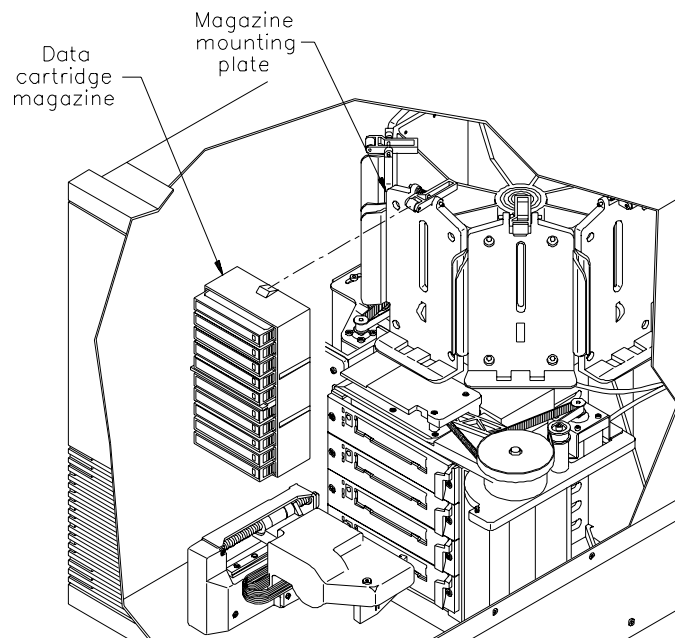

Figure 3-3 Replacing a cartridge magazine
5. Grasp the cartridge magazine on either side, pull the upper end out first, and remove it from the mounting plate (see Figure 3-3).